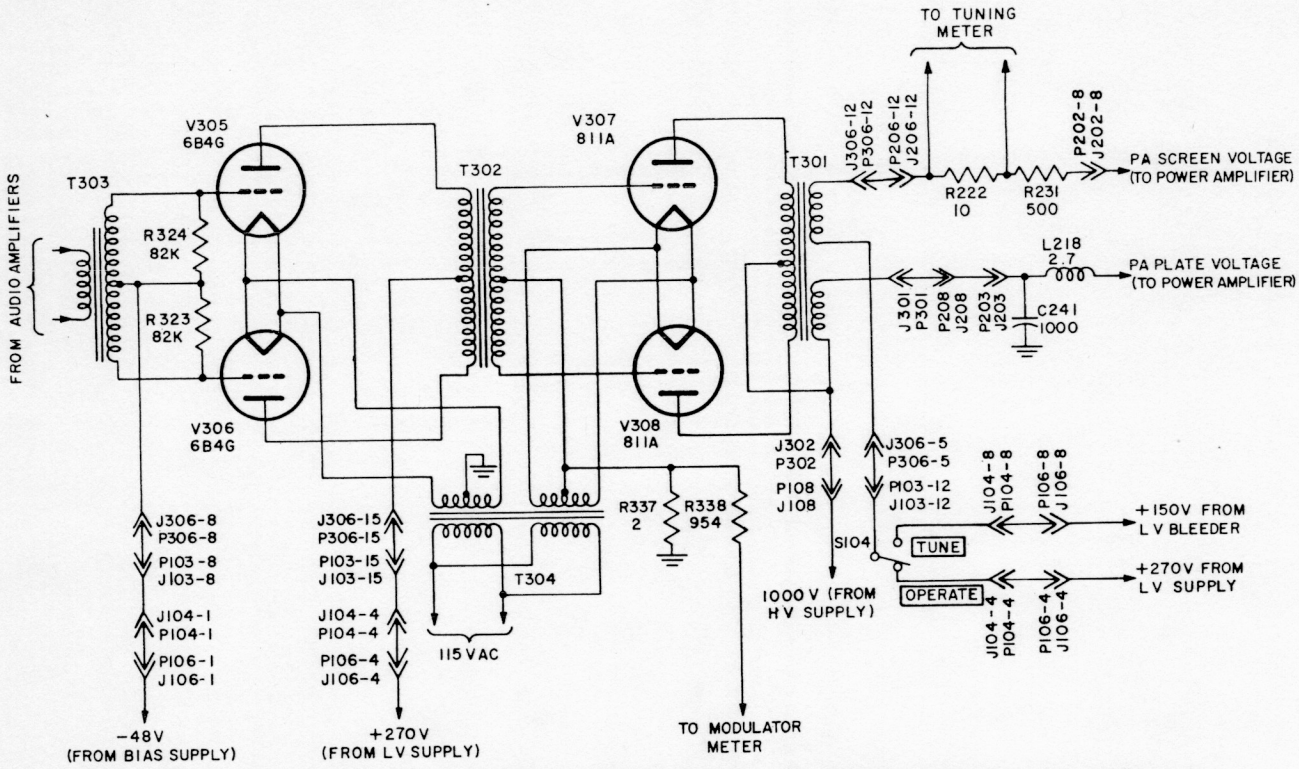

Figure 4-10. Audio Driver and Modulator, Simplified Schematic Diagram
e. AUDIO DRIVER. - (Refer to figure 4-10.) The audio driver uses V305 and V306, both type 6B4G triodes, connected in a push-pull amplifier circuit. The drivers are operated Class A, with a -48 v fixed bias applied to the grids from the bias supply. The filaments are connected in parallel across one of the 6.3 v secondary windings of transformer T304. The plates are held at the +270 v output of the low voltage supply. The output of the driver is coupled to the audio modulator by transformer T302.
f. AUDIO MODULATOR. - (Refer to figure 4-10.) The audio modulator uses two type 811A triodes, V307 and V308, connected in a Class B push-pull circuit. The modulator produces the 200 watts of audio power required to modulate the power amplifier stage of the R-F Unit. The filaments are connected in parallel across the other 6.3 v secondary winding of transformer T304. The grids, connected to the center tap of this winding, are operated at zero bias. R337, between the center tap and ground, provides an indication of the common grid current for the modulator meter, M301. The plates of the modulator tubes are connected to opposite ends of the primary winding of modulation transformer T301. The +1000 v output of the high voltage supply is applied to the plates via a center tap on this winding. The transformer has two secondary windings. The output of one of them, superimposed on a d-c level of +270 v, is applied to the screens of power amplifiers V206 and V207. The output of the other secondary winding, superimposed on a d-c level of +1000 v, is applied to the plates of V206 and V207 through the r-f decoupling network.